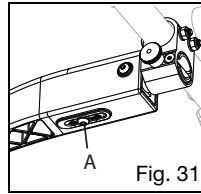

Fig. 31
- b. Loosen the 6mm screw located on the underside of the assembly (Fig. 31).
- d. Retighten the 6mm screw (Fig. 31). Do not overtighten.